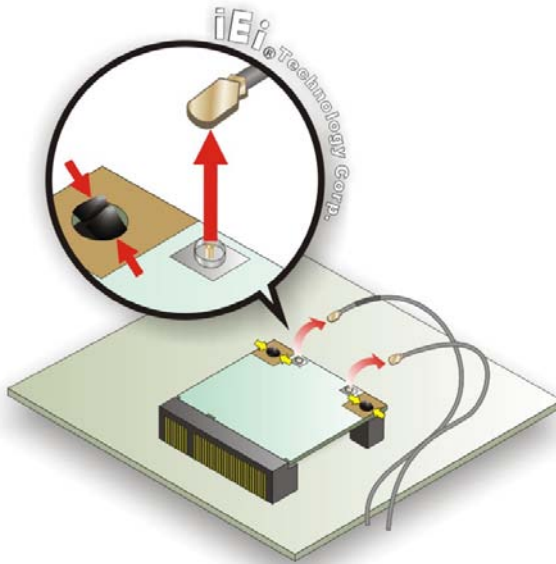

Figure 6-5: Releasing the WLAN Card
Step 6: Disconnect the main and auxiliary antennas on the WLAN module and push the two spring clips in to release the WLAN card (**Figure 6-5**).